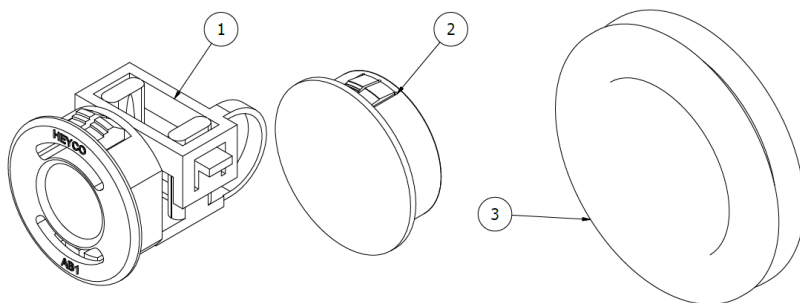

Figure 8: Cable and tube interfaces
- Move the cable strain relief fittings to the side you wish to make the entries / exits. Cover all other holes in the enclosure with the supplied blanking grommets. (Figure 8).
- Wire the cable via the appliance case grommets and into the control box housing (Figures 8, 11 and 13.3).